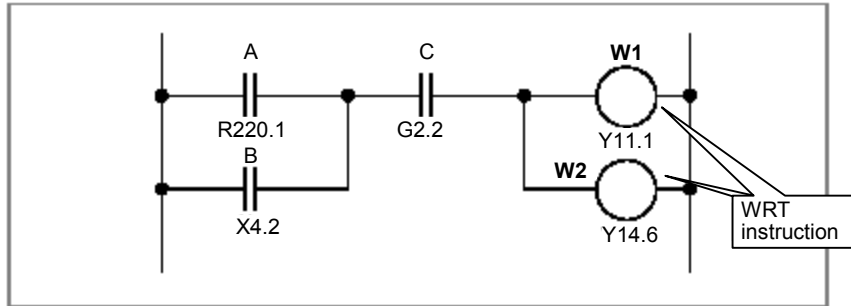

Fig. 4.1.4
- (1) The WRT instruction outputs the result of the logical operation, namely the status of the ST0 bit (0 or 1), to the specified address.
- (2) The instruction can also output a logical operation result to two or more addresses simultaneously. In that case, use the WRT instruction as shown in Fig. 4.1.4 and Table 4.1.4.